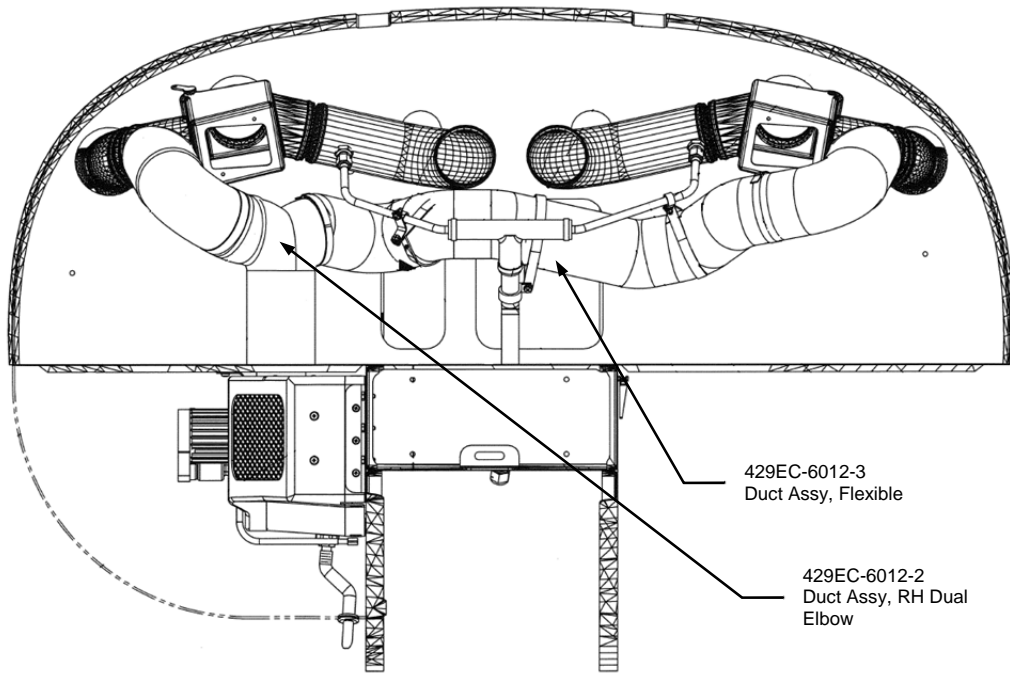

Figure 5: Single Fwd Evaporator Ducting – Nose, View Looking Aft
- a. Remove and discard the following with attaching hardware in preparation for installation of the LH forward evaporator. (Figures 5 & 6)